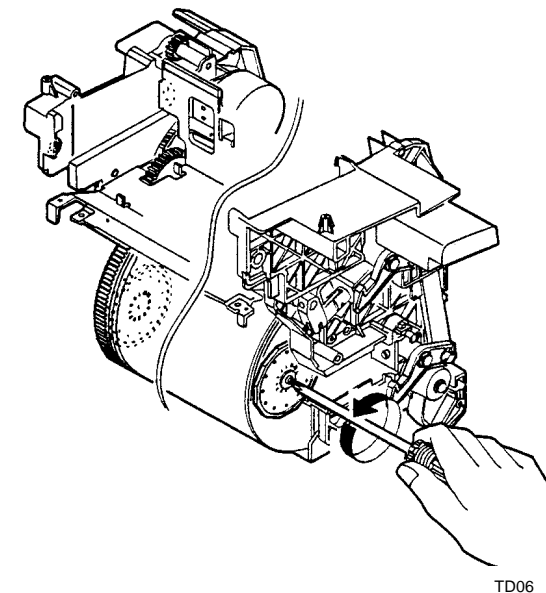

Figure 5. Adjusting the Nip
2. (Figure 5): Note the number of the flat that is close to the Print Drum. Then loosen the two screws securing the left and right adjustment plates